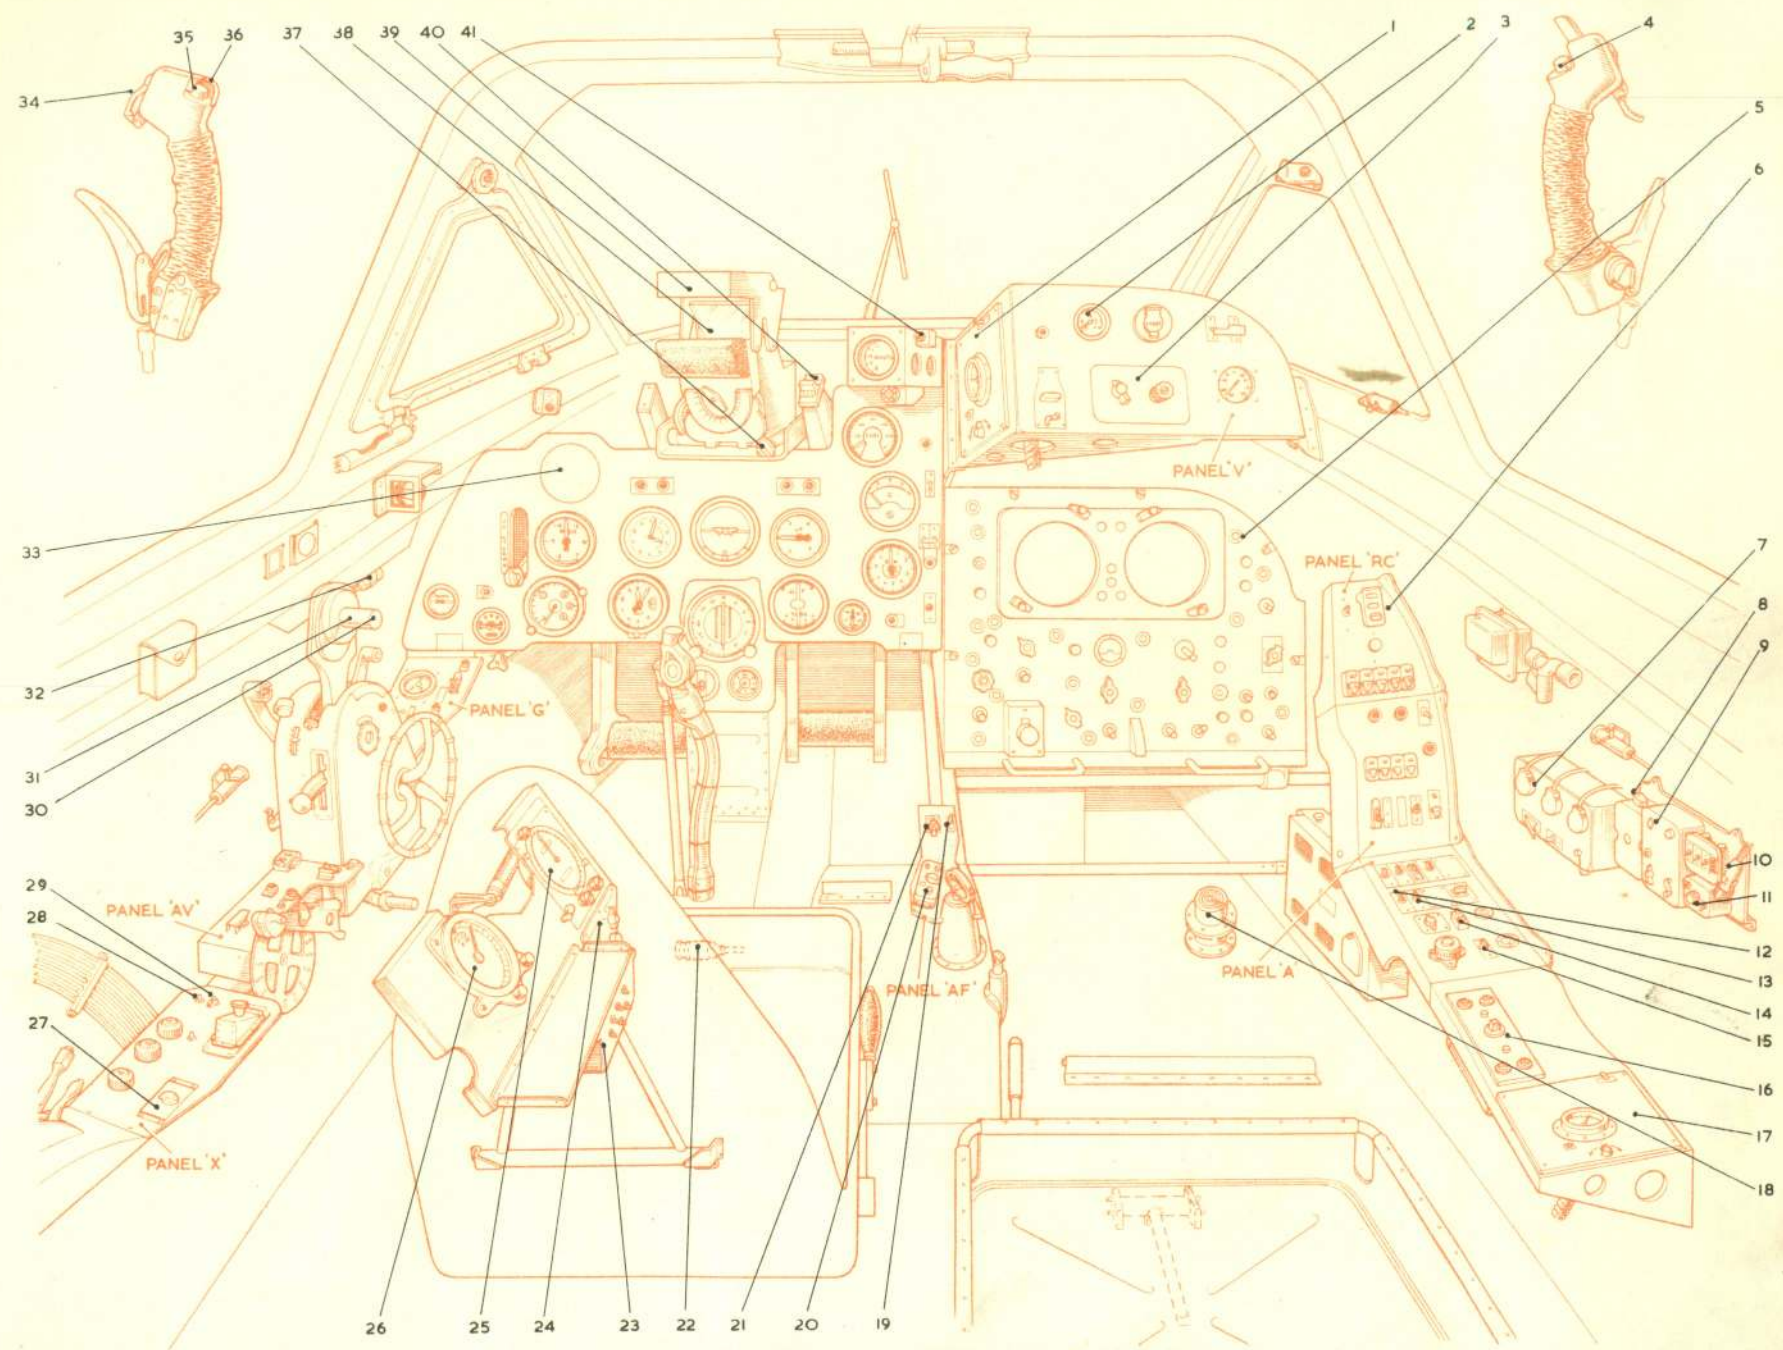

Fig. 3 Operational controls and equipment (early aircraft)
**Key to Fig. 3 (Operational Controls and Equipment—Early Aircraft)**